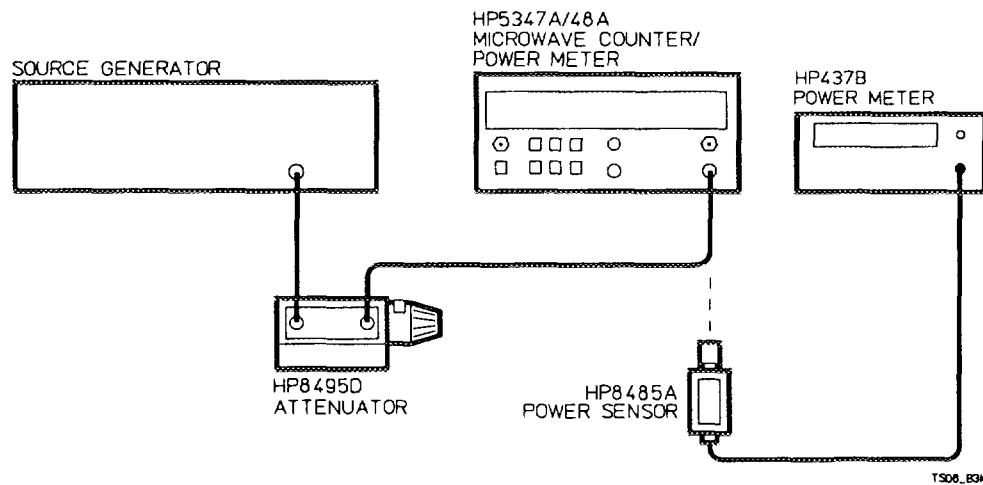

Figure 4-3. INPUT 1, 500 MHz-26.5 GHz Verification Test Setup
1. Connect the equipment as shown in Figure 4-3.